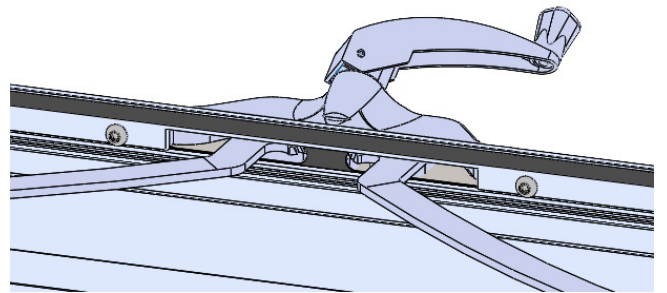

Figure D2:
3. Remove the Torx Fastening screws from the operator, 2 for awning, 4 for casement (Figure D2). Additional opening of the vent may be required.